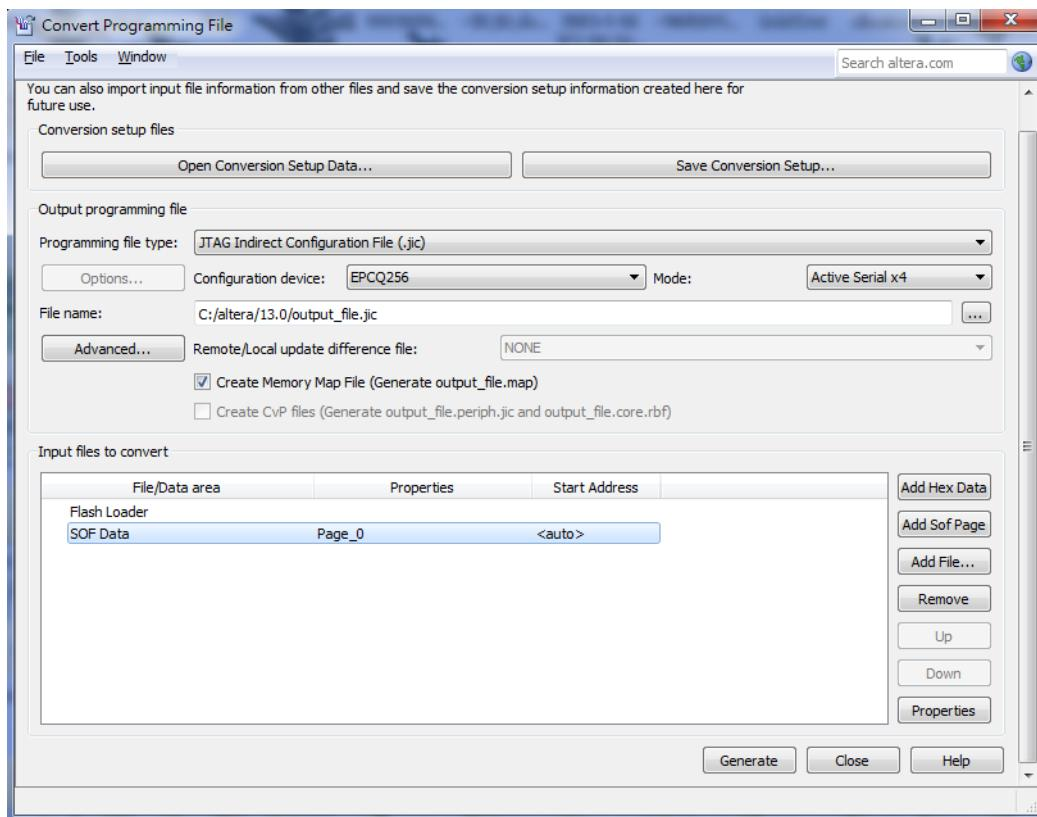

Figure 6-2. Convert Programming Files Dialog Box
6. Highlight the SOF data in the Input files to convert section. See Figure 6-2.